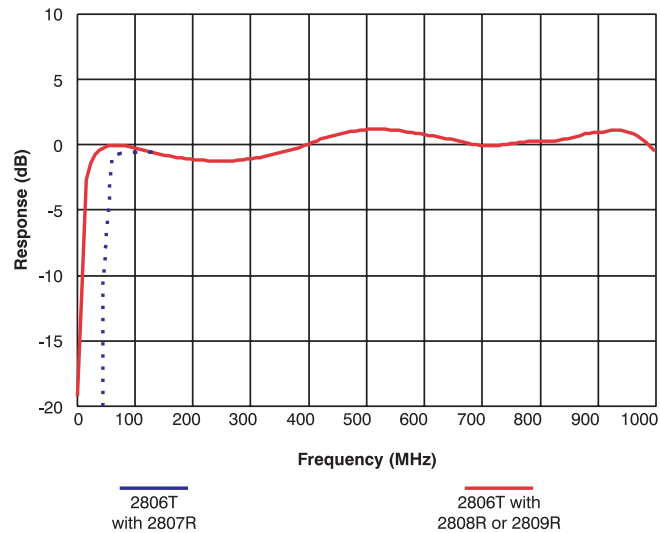

Figure 1.1 In-Band Frequency Response
- Figure 1.1 shows the typical frequency response of a 2806T/2809R link over the specified frequency range. The gain flatness is ± 1.5 dB over this range. The flatness is typically less than ± 0.1 dB over a standard 6 MHz channel bandwidth. See Application Note AN123 for additional information on North American Television Frequencies.